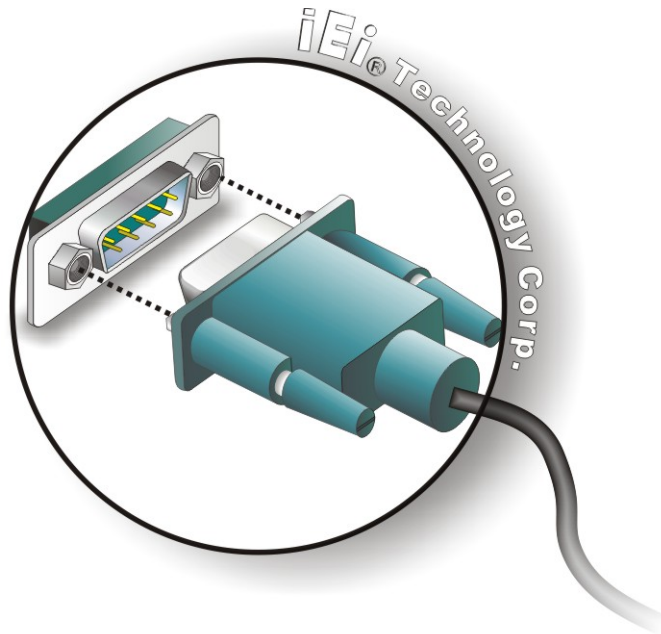

Figure 4-24: Serial Device Connector
Step 2: **Insert the serial connector.** Insert the DB-9 connector of a serial device into the DB-9 connector on the external peripheral interface. See **Figure 4-24**.